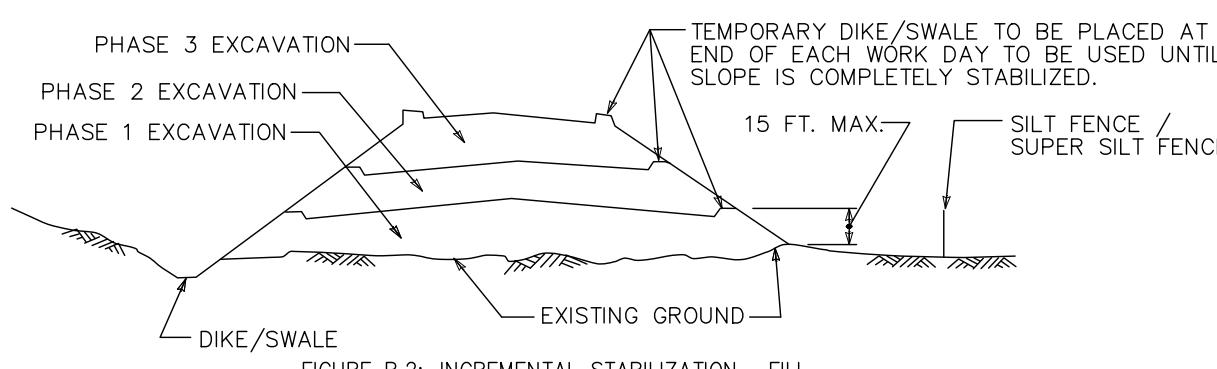

FIGURE B.2: INCREMENTAL STABILIZATION - FILL
4. CONSTRUCTION EXAMPLE (REFER TO FIGURE B.2):